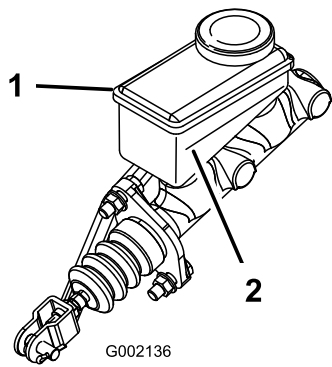

Figure 61
3. Look at the outline of the fluid level at the side of the reservoir (Figure 61).
- B. Add DOT 3 brake fluid to the reservoir until the fluid level is above the Minimum line (Figure 61).